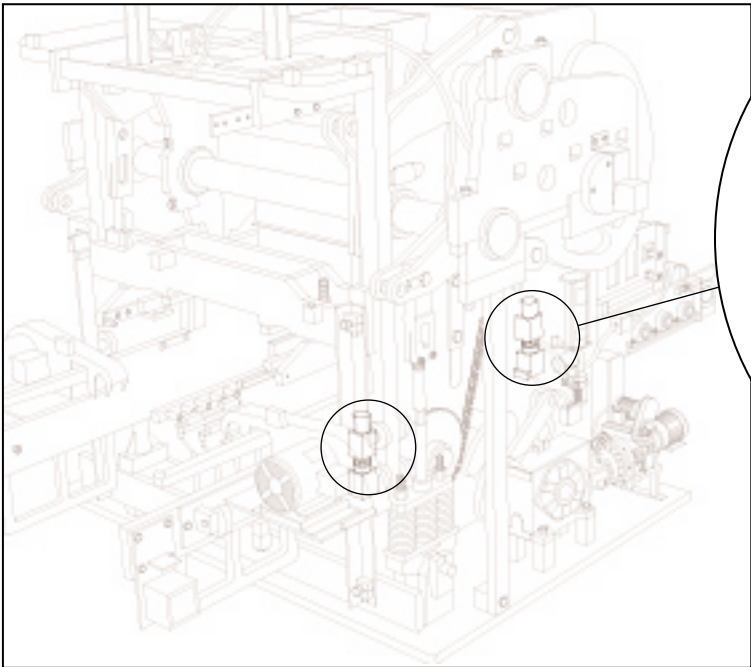

Figure 4.50 BOLTS AT ALL 4 CORNERS. (RIGHT SIDE SHOWN)
- b. Loosen bolts at all 4 corners that secure mold throat assembly (figure 4.50 and 4.51). Remove top spacers.